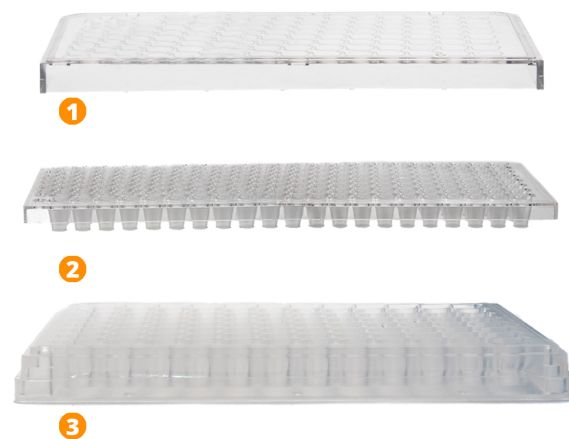

Fig. 1–The PermaCell insert plates have three components: (1) Cover, (2) Insert Plate and the (3) Receiver plate.
- 96-well insert plate fits within a 96-well receiver plate (included) which allows for individual treatment and assaying of each well in the plate (Fig. 1)